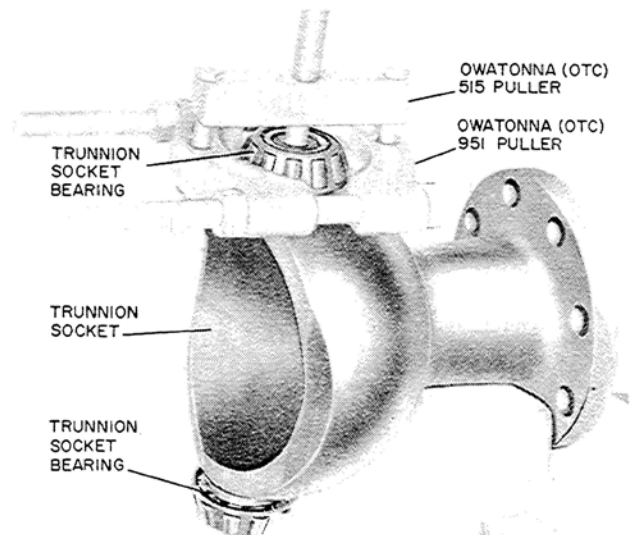

Figure U-37
5. If the trunnion socket bearings are damaged remove them, using the OTC No. 515 and 951 pullers, Figure U-37. The steering axle planetary and universal joint are now completely disassembled.